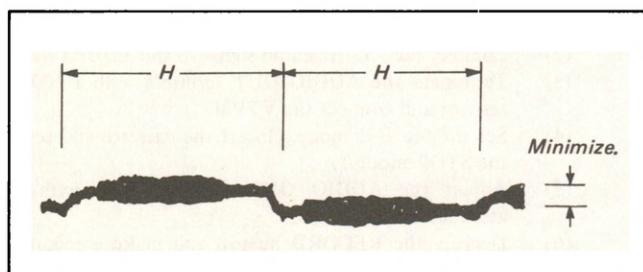

Fig. 4-39. Hard clamp adjustment
- (4) Adjust RV10 to eliminate the level difference at every 1H. (See Fig. 4-39.)